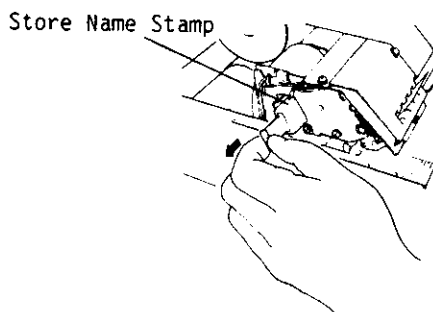

Fig. 4
2. Withdraw the store name stamp with the protruding part pinched with your fingers (Fig. 4).